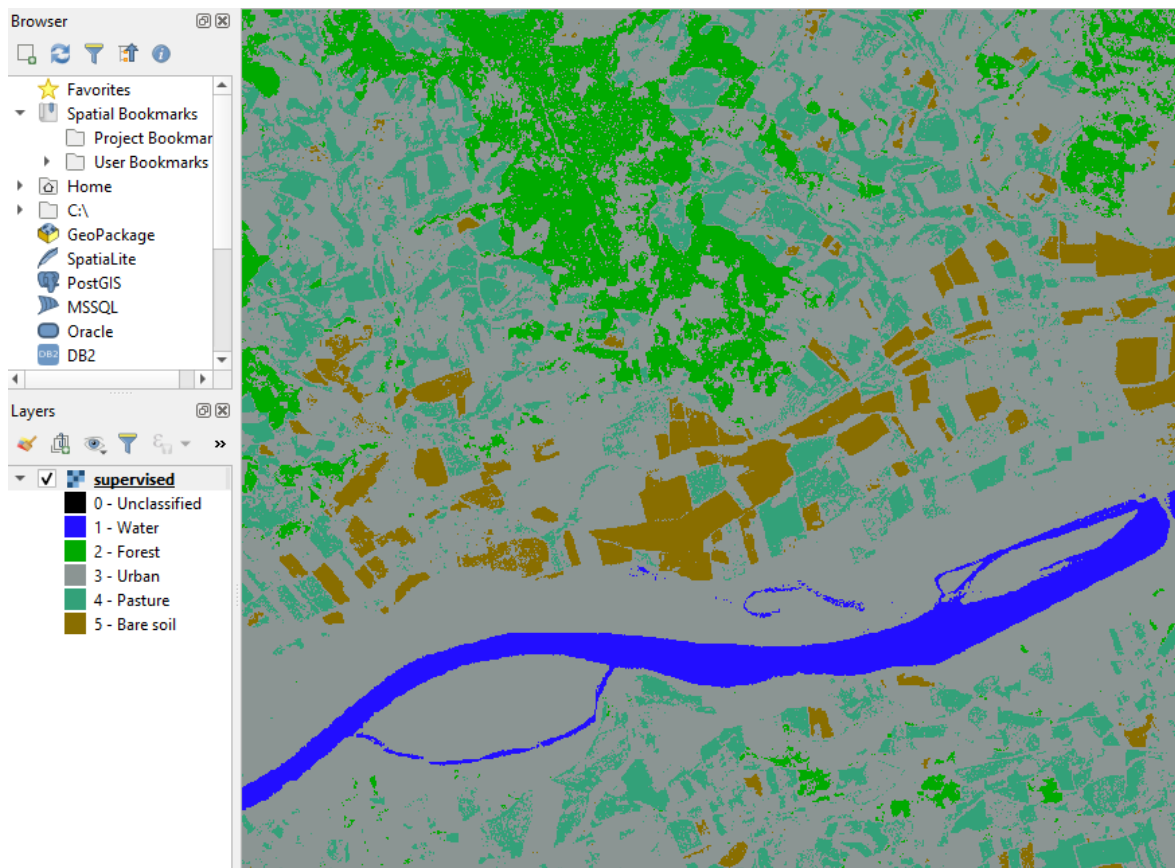

Figure 10. Supervised classification result.
8) The result of the classification will appear at the Layer panel on the left, both raster and vector layers (if you select it as an output), Figure 10. Those layers together with the Classification report are stored at a specified folder. You can change layer symbology in the layer properties.